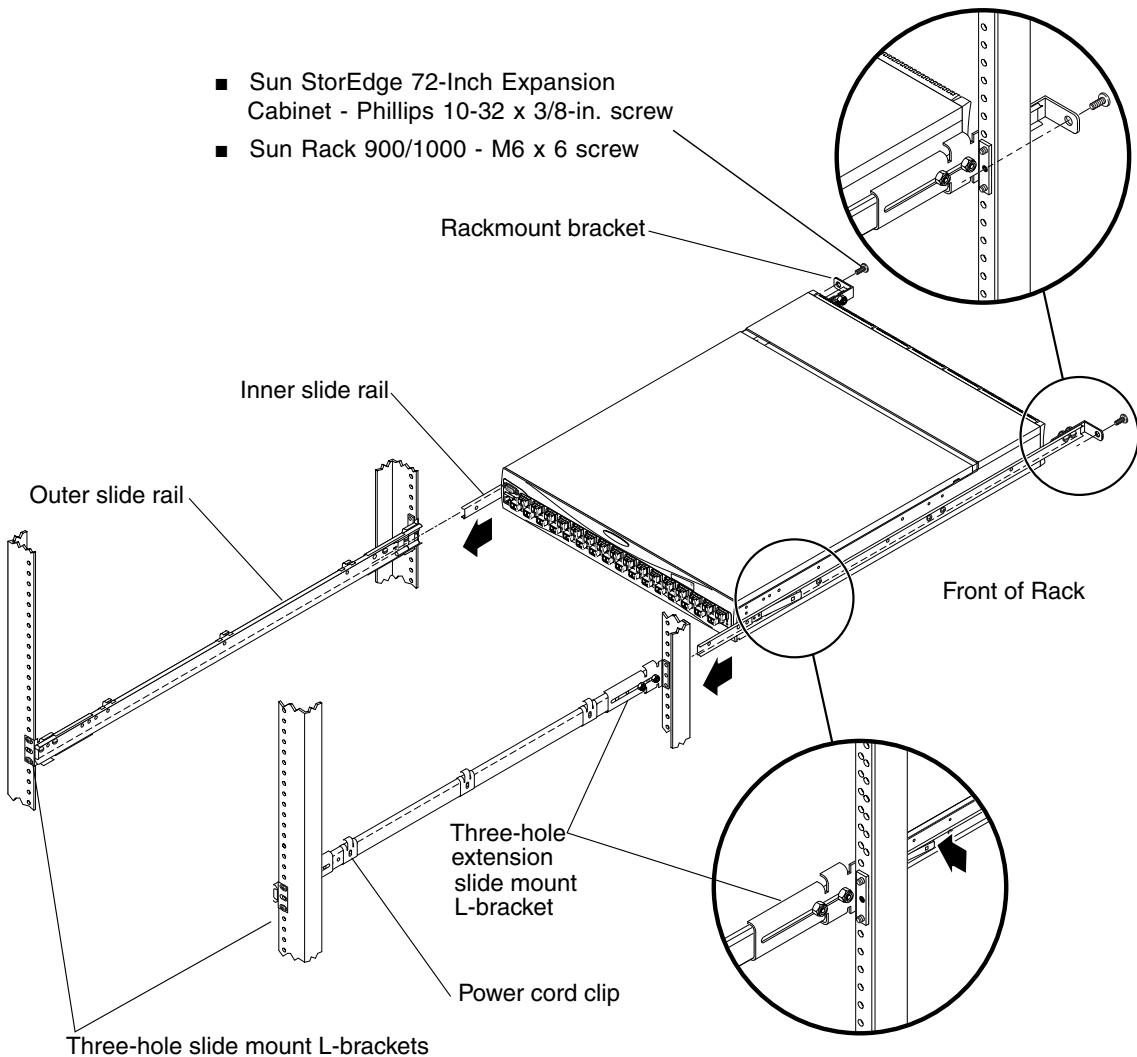

FIGURE 3-3 SilkWorm 3900 Switch and Outer Slide Rail Installation
5. Attach two of the three-hole extension slide mount L-brackets to each outer slide rail. See FIGURE 3-3.
- b. Position the outer slide rail in the rack and adjust the L-brackets to accommodate the depth of the cabinet. Refer to FIGURE 3-3.
To allow the switch to slide out of the front of the rack, orient the rail as shown in FIGURE 3-3, with the closed end of the slide rail toward the back of the rack.
- d. Attach the L-bracket on the front end of the outer slide rail to the corresponding rack vertical rail, using two of the Phillips 10-32 x 3/8-inch screws. See FIGURE 3-3.
- a. Position the switch next to the rack as shown in FIGURE 3-3, and insert the inner slide rails into the outer slide rails.
2. Attach the rackmount brackets to the vertical rack rails using one Phillips 10-32 x 3/8-inch screw per bracket, tightening the screws to a torque of 25 inch-pounds (28.8 cm-kgs). See FIGURE 3-3.
a. Place the power cord clips on the outer slide rails. See FIGURE 3-3.